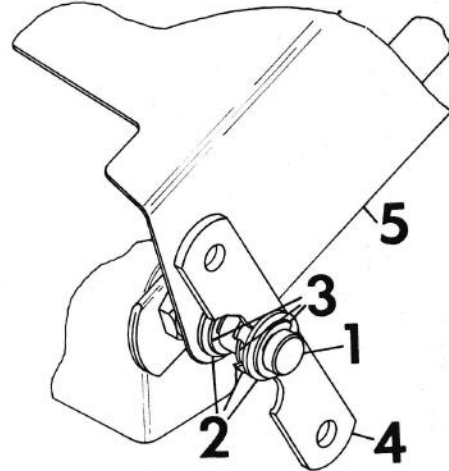

Fig. 11
4. For tractor without a battery box, fit the hood on the pivot stud, add a flat washer and secure with an "E" ring. Install another "E" ring in the middle groove of the pivot stud, add a flat washer, the pivot plate, another flat washer and secure the assembly with the last "E" ring. See fig. 11.